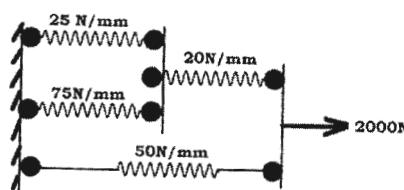

Fig.1
b) Figure 1 shows cluster of four springs. Calculate deflections of each spring when a force of 2000 N is applied. Model the springs as 1D element. [8]